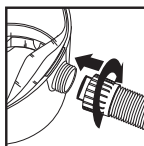

FIGURE 30
53. Reinsert hose into inlet and tighten the locking-nut. **FIGURE 30.**